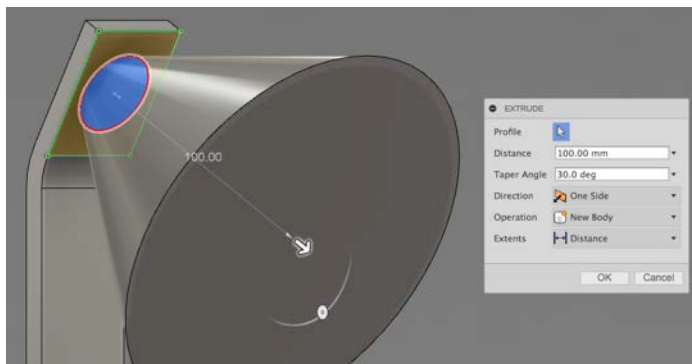

Fig. L13
- Set taper angle to 30deg (Fig.L13).